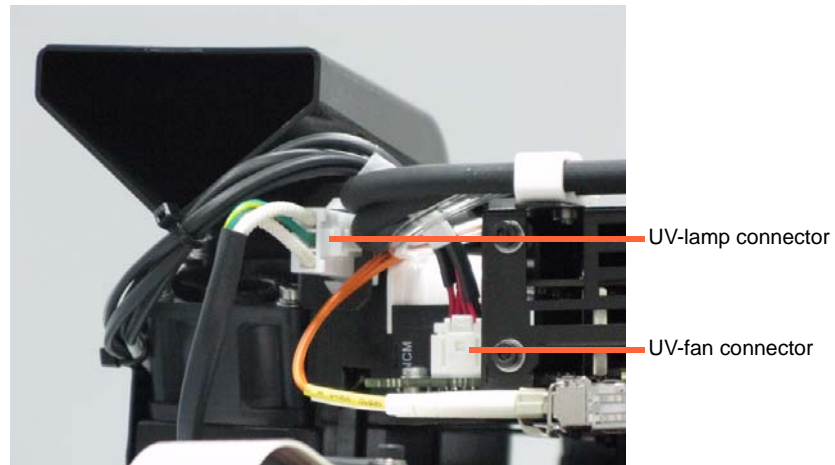

Figure 7-73: Disconnecting the UV lamp assembly
17. Reconnect the power connections (see figure 7-73).